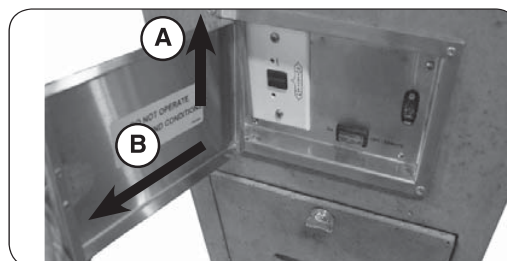

Fig. 37-2 Remove control panel door
1. Remove the control panel door by lifting it slightly, and pulling it away from the unit (see Fig. 37-2).